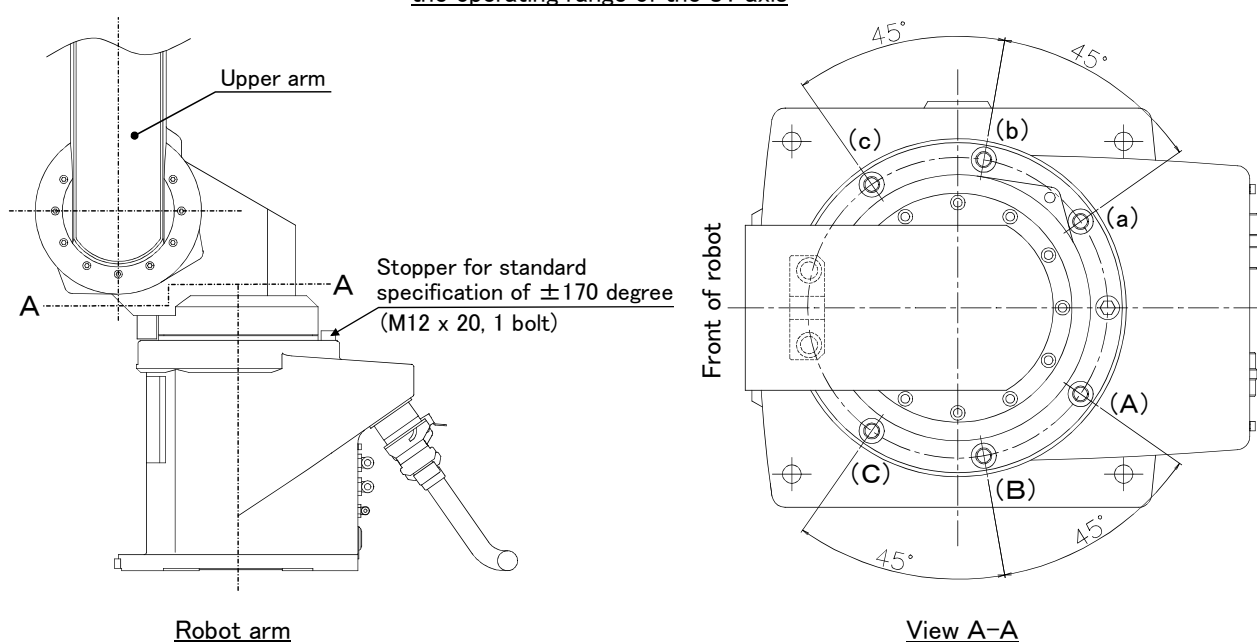

Fig.3-6 : Installation of operating range change option
Note) The insertion position given in the table indicates the insertion position for the operating range change stopper. (Refer to Fig. 3-6.)
- 1) Move the upper arm to the posture as shown in Fig. 3-6 by jog operation.
- 3) By referring to Table 3-2 and Fig. 3-6, insert the two stoppers (M12 x 20) used to change the movement range of J1 axis at the angular position to be changed, and fix securely by applying a clamping torque of 120 to 15086 N · m.
Do not remove the stopper for the standard specification of  $\pm 170$  degree shown in Fig. 3-6.